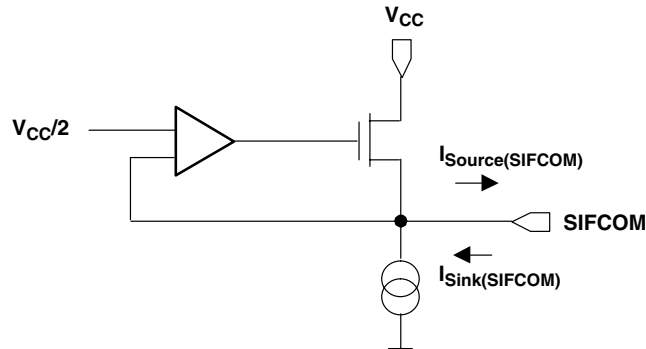

Figure 20. P6.x/SIFCHx timing, SIFCHx function selected
| I _{source(SIFCOM)} | SIFCOM source current (see Note 2 and Figure 20) | | 2.2 V | -500 | | | μA |
| I _{sink(SIFCOM)} | SIFCOM sink current (see Note 2 and Figure 20) | | 2.2 V | 150 | | | nA |
2. The sink and source currents are a function of the voltage at the pin SIFCOM. The maximum currents are reached if SIFCOM is shorted to GND or V_{CC}. Due to the topology of the output section (refer to Figure 20) the V_{CC}/2 generator can source relatively large currents but can sink only small currents.